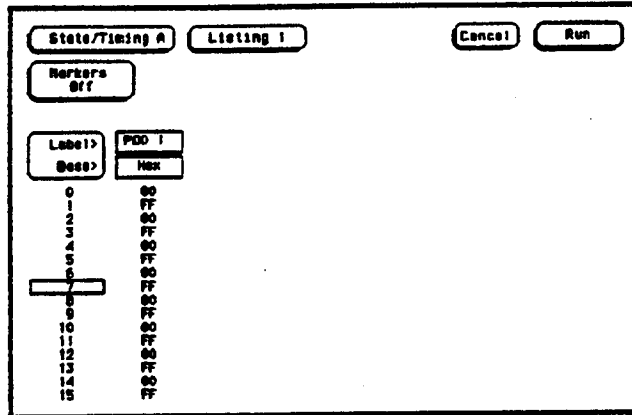

Figure 3-18. Listing Screen
6. Touch Run. The State Listing screen will be displayed and should list alternate F's and 0's as shown in figure 3-18.